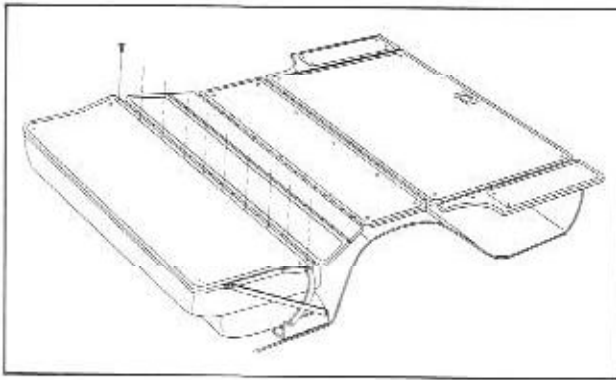

Fig. 15-66 Folding Rear Seat Back Assembly
2. Remove rear floor filler panel to folding seat back panel attaching screws as shown in Fig. 15-66.